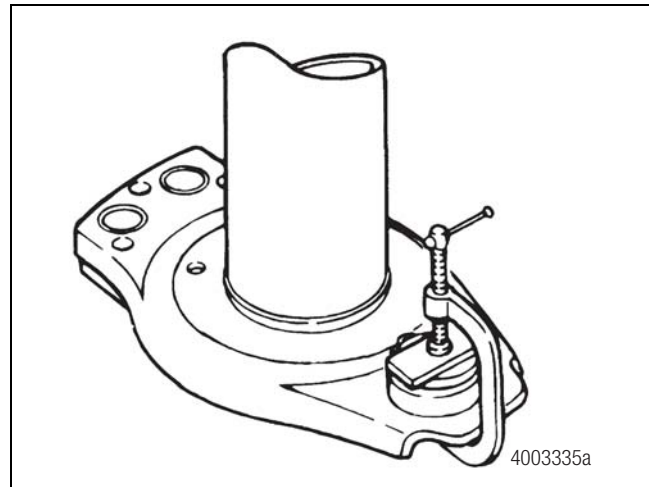

Figure 12.34
3. Position a new bushing onto the spider making sure the four bushing holes line up with the four matching spider holes, then press a new bushing into the spider with a C-clamp until it is completely seated. Figure 12.34.